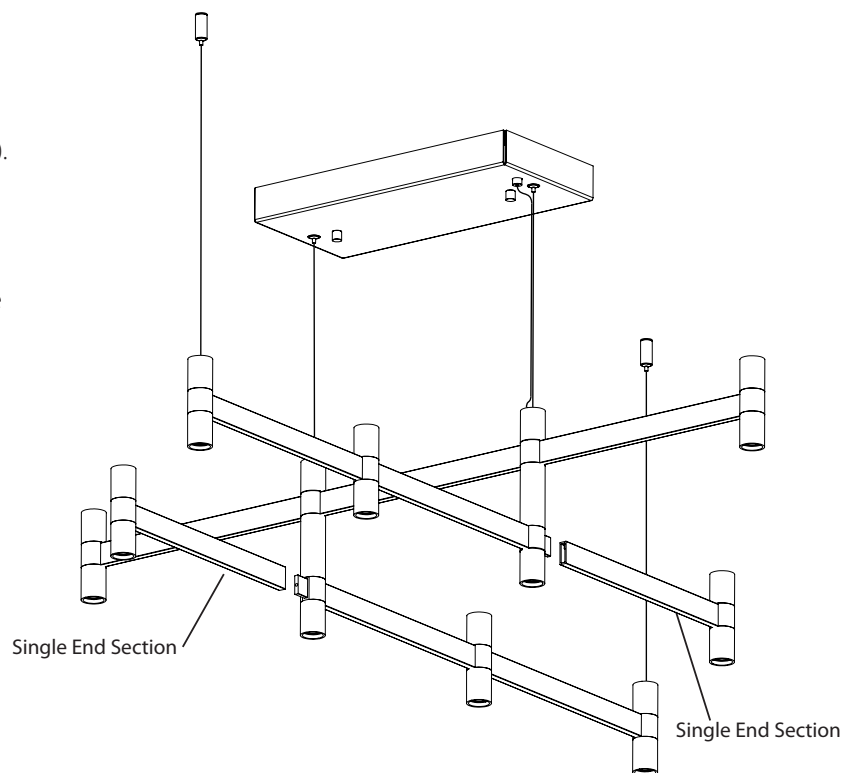

Figure 7
11. Install two Single End Sections to suspended Section 1 in positions shown (Figure 7) by connecting the plug (M), sliding bar over wing (N), securing in place with countersunk screws (P).
12. Install trim (U) by threading it to fixture.